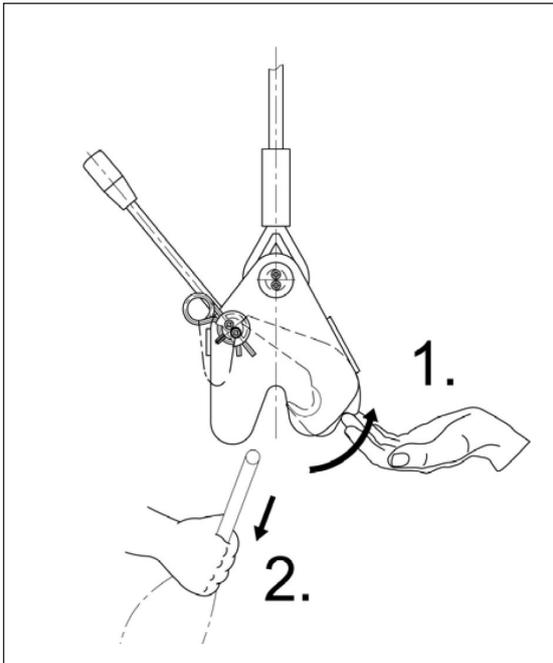

Figure 4: Off-load release
Off-load release (figure 4): When the boat was in the sea the boat's suspension would be slack, and the pawl (1), which held the suspension in place could be withdrawn. Then, the boat's suspension could be released (2).